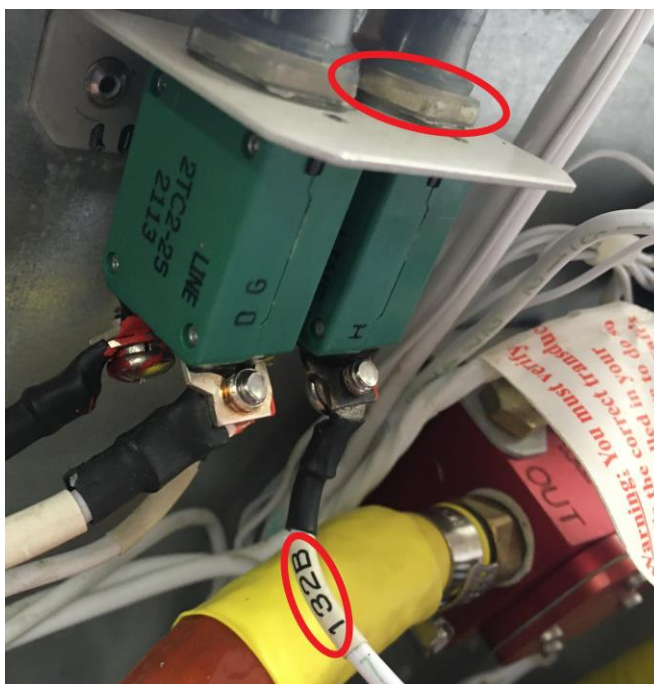

Fig. 10: Fuse
- 8) Unscrew the nut and release GEN circuit breaker (See Fig. 10)